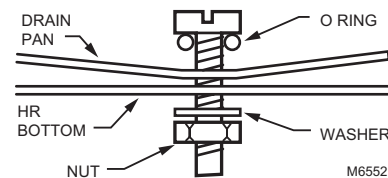

Fig. 7. Installing drain line.
3. Hand tighten the nut. See Fig. 7.